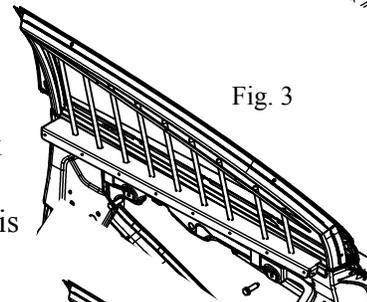

Fig. 3
2. With the OEM door panel removed, locate the upper bolts holding the window assembly to the door frame. Remove the outside and inside bolts. Place window armor on top of the rubber trim installed above. Align the mounting tabs with the hole in the window assembly. Using the OEM bolts removed previously, fasten the window armor to the vehicle door. (See Fig. 3)